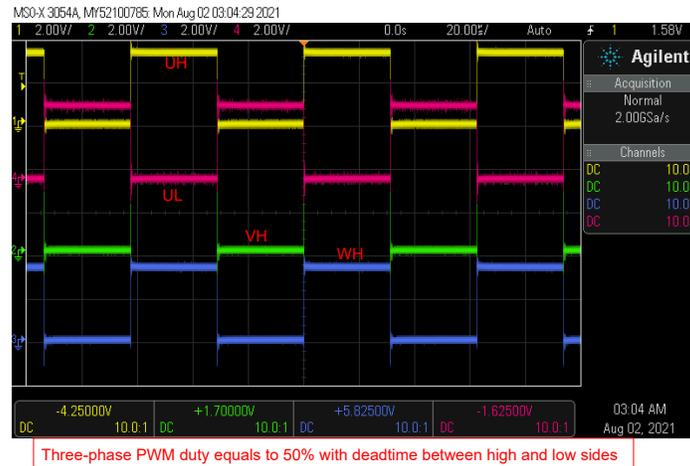

Figure 3-31. Build Level 1: PWM Output Waveforms
9. Using an oscilloscope, probe the PWM outputs that are used for motor drive control. The duty cycles of the three PWMs are set to 50% in this build level. The expected PWM output waveforms are as shown in Figure 3-31. The PWM switching frequency will be the same as the value that was set for the USER_M1_PWM_FREQ_kHz define in the *user_mtr1.h* file.
The C2000 PWM with deadband outputs to the input of the gate drive as shown in Figure 3-31